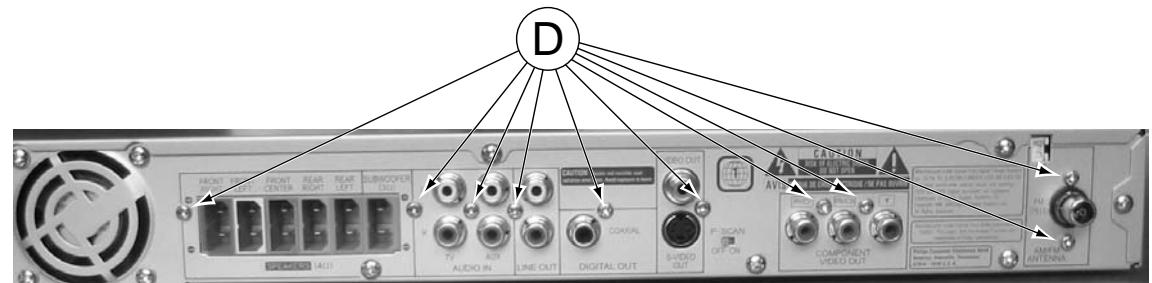

Figure 7
- 1) Loosen 10 screw " D " at the back panel as shown in figure 7.